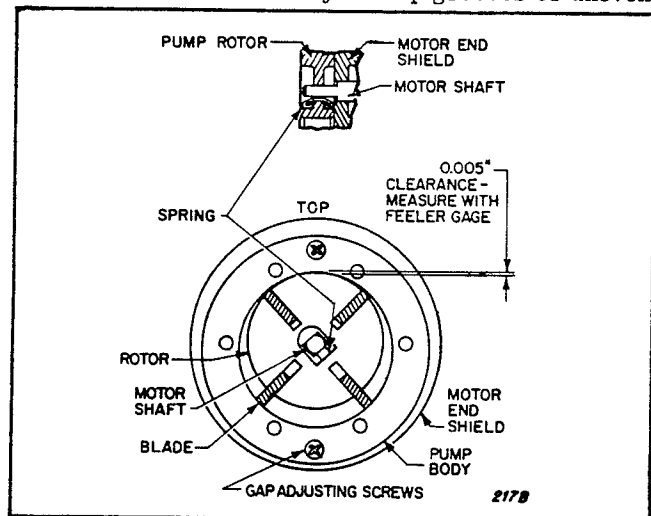

Figure 8. Checking Clearance of Air Pump Rotor
a. Install the spring in the pump rotor as shown in Figure 8, then assemble the rotor on the motor shaft. Attach the pump body to the motor with the two top and bottom recessed screws which were removed to take it off.
b. Adjust the pump body to provide 0.003 to 0.005 inch clearance at the point shown in Figure 8. Measure the clearance with a feeler gage. Spin the motor by hand to be sure the rotor does not rub on the pump body. The proper clearance must be maintained. Be sure the screws are tight after adjusting the clearance.